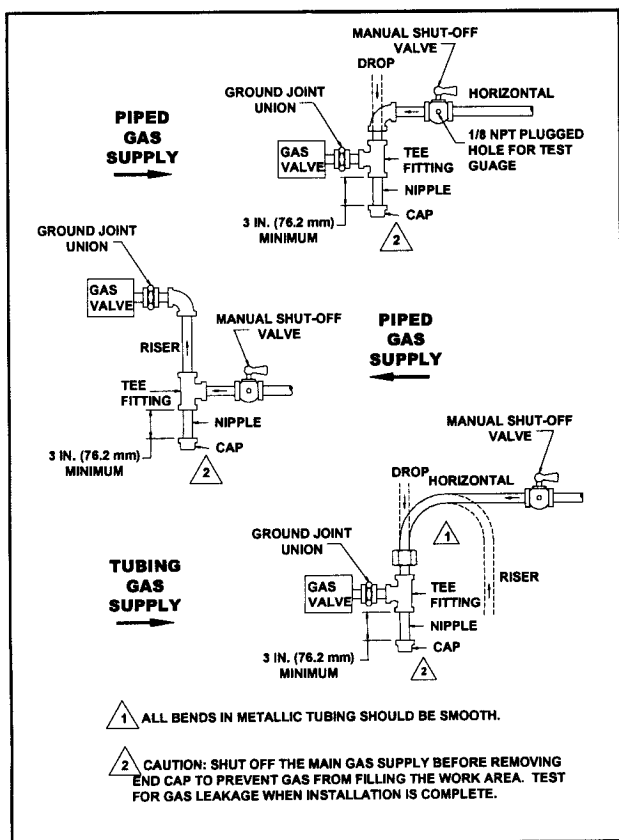

Figure 2
- D. A drip leg (Figure 2) should be installed to constitute a trap to catch any condensate that may be in the gas. The drip leg should be readily accessible for cleaning.